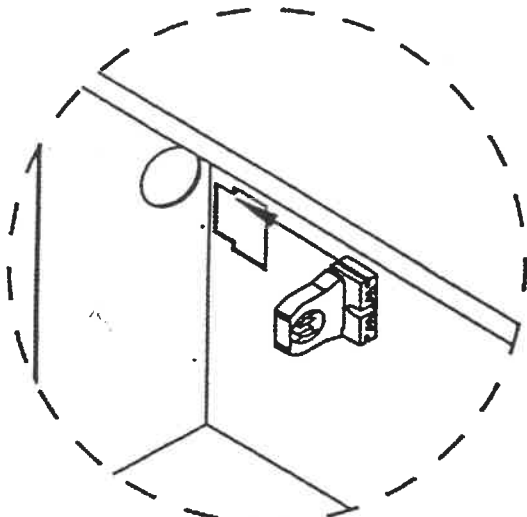

FIGURE 2
3. Carefully slide the lampholder through the open slot as shown in figure 2. The lampholder should be flush against the back of the slot. Note: This procedure will be repeated for the opposite side of the panel.